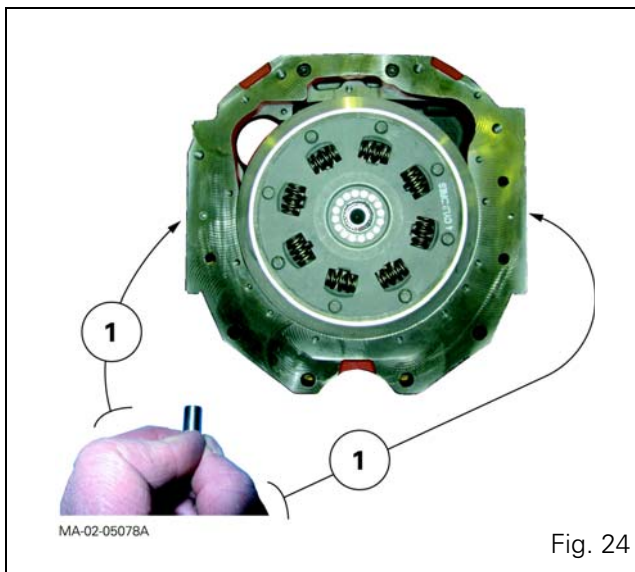

Fig. 24
54. Check for the presence of dowels (1) on the engine adapter plate (Fig. 24).